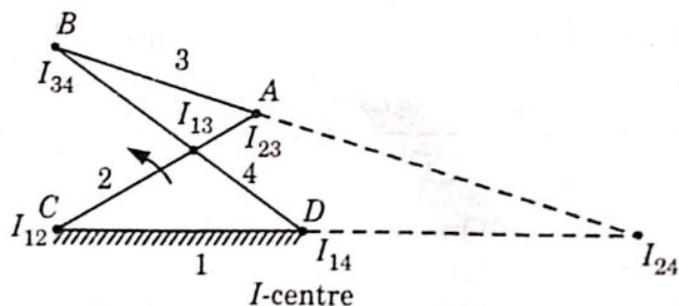

Fig. 1.21.2.
- All the instantaneous centres of given mechanism are shown in Fig. 1.21.2.